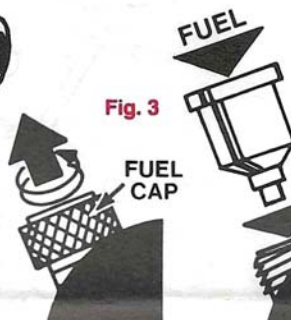

Fig. 3
4. Remove FUEL CAP. Use a funnel or suitable filling device and fill with clean, fresh fuel. **DO NOT TIP STOVE.** (Fig. 3)